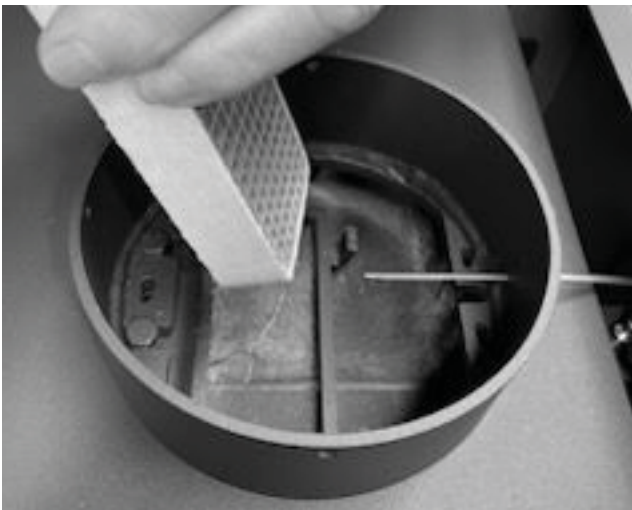

Figure 2: Insert combustor into flue.
2. Insert the catalytic combustor into the flue collar from above. Figure 2
This heater may be installed using a single-wall connector (smoke pipe) as per local and National fire and Installation codes. See Single wall Connector in figure 2. Clearances may be reduced with various heat shielding or insulating materials. Consult local and national fire codes and authorities for approval